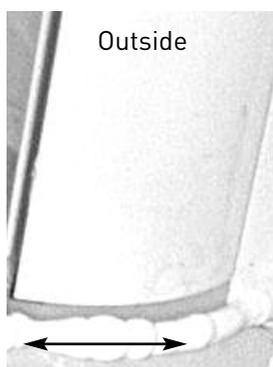
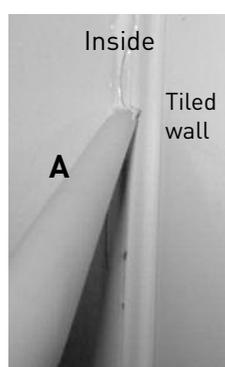

Figure a10
Figure a10i
10. Once satisfied with the installation of your Collage Curved Bath Screen, seal both sides of the Wall Profile (A) inside and outside only where it meets the tiles (**Figure a10/a10i**). Fully seal the base of the Main Curved Rail along the Bath top from the outside only (**Figure a10i**).
4	Ensure the Wall Profile on the tiled wall is sealed inside and outside where it meets the tiles only (Figure a10 /a10i).
5	Ensure that the outside joint between the Curved Bath Screen and Bath top is fully sealed (Figure a10).